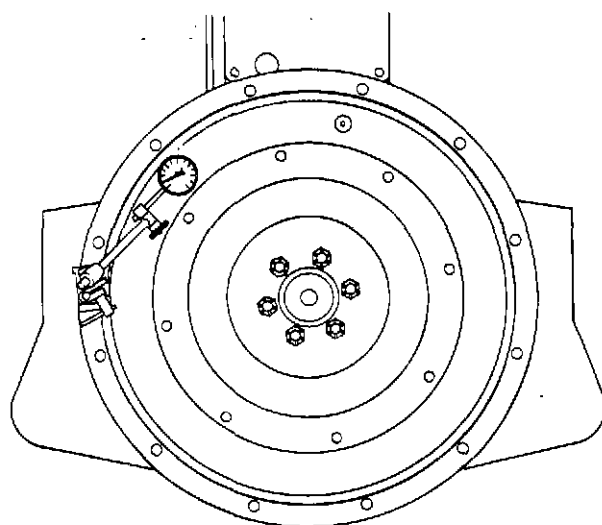

Figure 5-28. Indicating Flywheel Face
3. Attach the indicator as shown in figure 5-28 to check the face of the flywheel. Runout should not exceed 0.008 inch total indicator reading. If runout is excessive, remove the flywheel and check for dirt or foreign matter between the flywheel and mounting seat on the crankshaft. Reinstall and recheck.